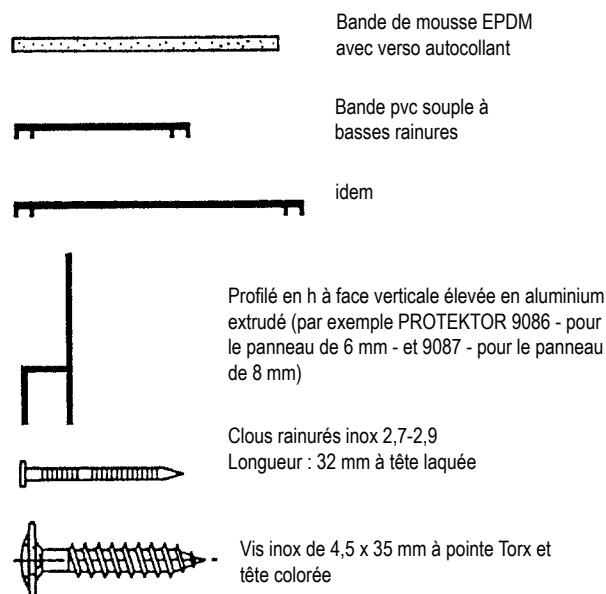

Fig. 1
2.2.1 CLOUS (VOIR FIGURE 1)
2.2.2 VIS (VOIR FIGURE 1)
2.3 Accessoires (figure 1)